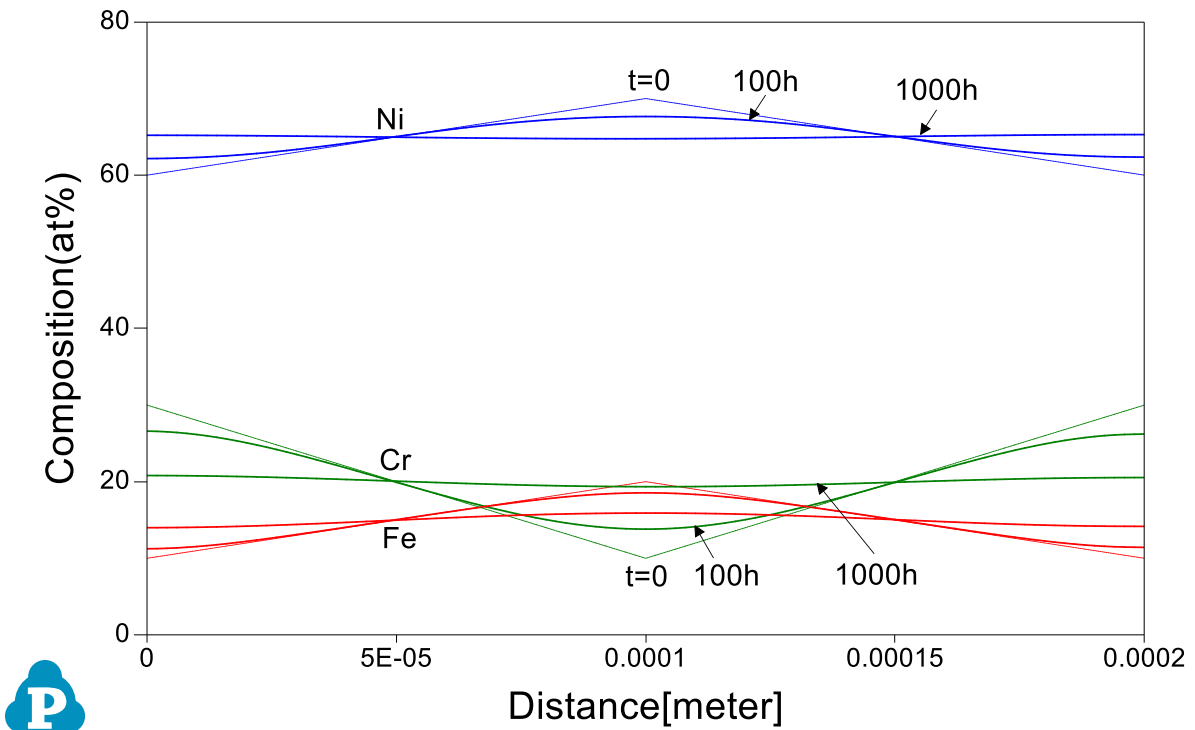

Figure 4.2.2: Calculated composition profiles at 100 hour and 1000 hour
- The calculated plot is shown in Figure 4.2.2. Add text and change graph appearance following the procedure in Pandat User's Guide 2.3.1;